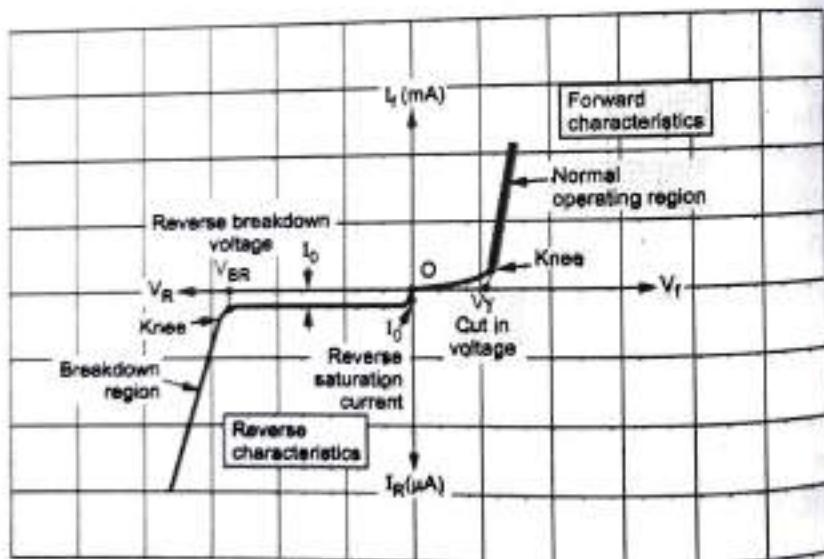

Fig. Q.22.3 Complete V-I characteristics of a diode
- The complete V-I characteristics of p-n junction diode is the combination of its forward as well as reverse characteristics. This is shown in the Fig. Q.22.3.